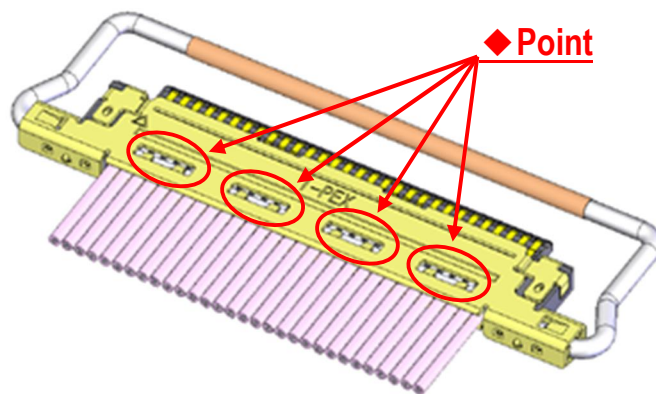

Fig.8 Soldering of Shell-A and Ground Bar
- ③ Soldering shell-A, B and ground bar with the soldering iron at all designated points is recommended. (Fig.8,9 ◆Point)